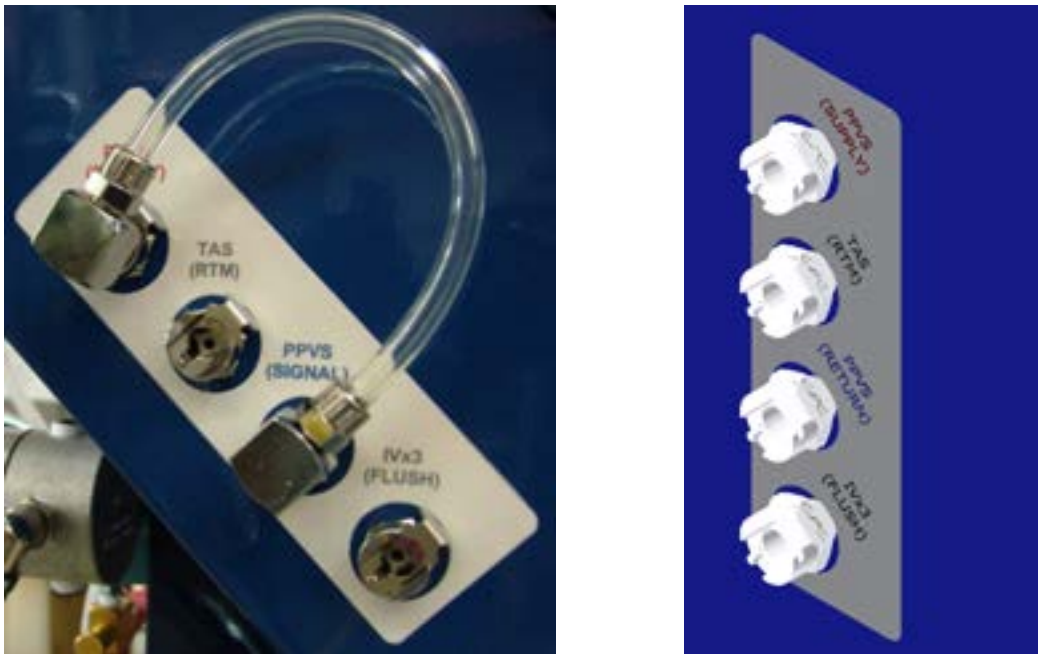

Fig. 6
**Side of control box** - see Fig. 6